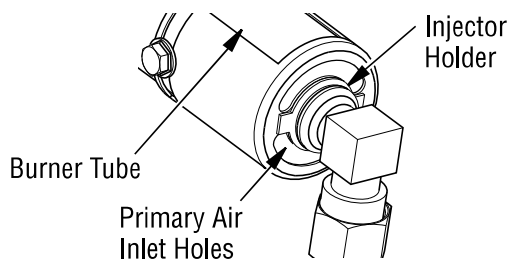

Figure 51 - Injector Holder On Outlet Burner Tube
2. Inspect burner, pilot and primary air inlet holes on injector holder for dust and dirt (*see Figure 51*).